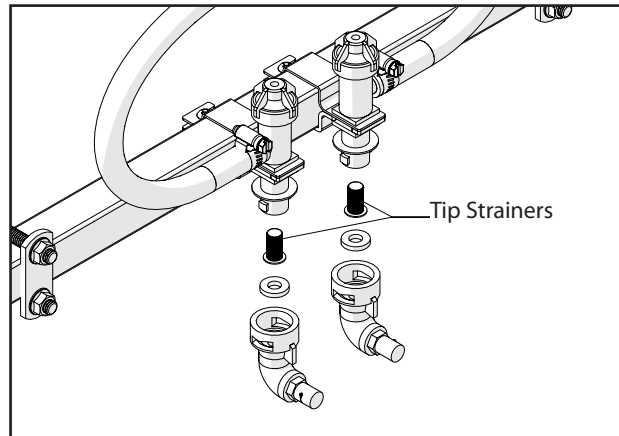

Figure 6
3. Tip strainers should be taken out and rinsed on a regular basis. Tip strainers are the small screens located behind each spray nozzle on the boom (Figure 6).